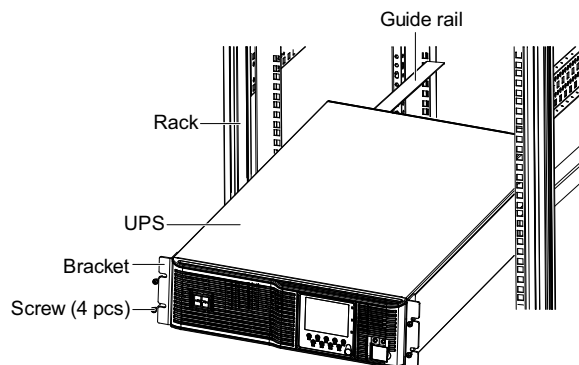

Figure 2-4 Installing the UPS
2. Place the UPS onto the guide rails in the rack, and push it completely into the rack. Take out four M6\*16 screws to fix the UPS on the rack through brackets, as shown in Figure 2-4.